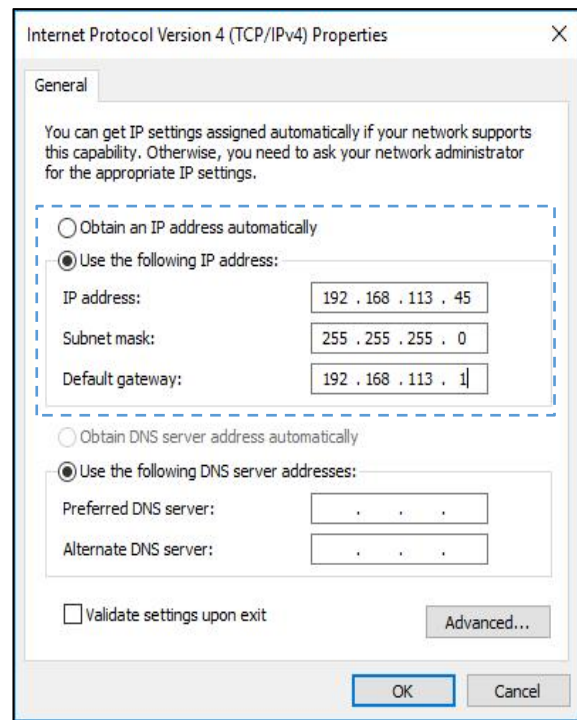

Figure 5-11 Internet Protocol Version 4 (TCP/IPv4) Properties
Step 5: In the "Internet Protocol Version 4 (TCP/IPv4) Properties" window (Figure 5-11), select "Use the following IP address";